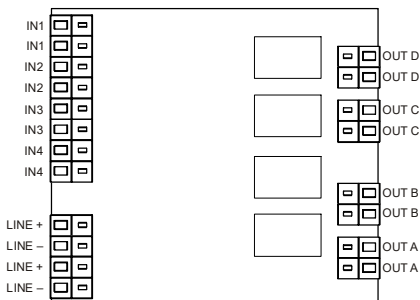

Fig. 8
1. Connect the cables to the terminals (Fig. 8).